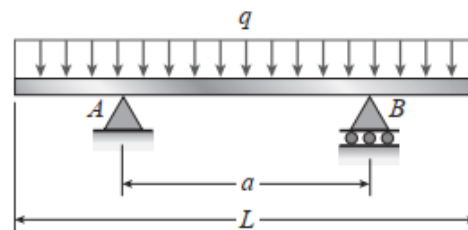

Figure 2
- 3 A beam of length L is being designed to support a uniform load of intensity q (see figure 2). If the supports of the beam are placed at the ends, creating a simple beam, the maximum bending moment in the beam is $ql^2/8$. However, if the supports of the beam are moved symmetrically toward the middle of the beam (as pictured), the maximum bending moment is reduced. Determine the distance a between the supports so that the maximum bending moment in the beam has the smallest possible numerical value. Draw the shear-force and bending-moment diagrams for this condition. [14M]